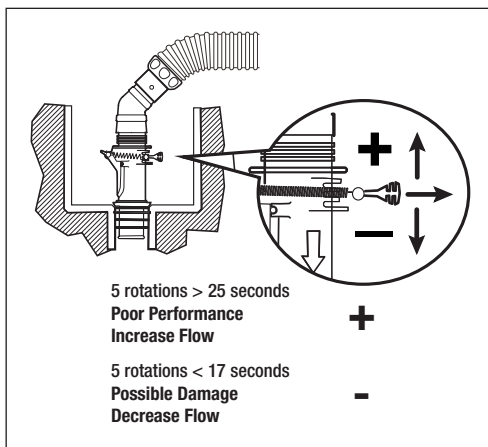

Figure 9. Adjust FlowKeeper™ Valve
- Flowkeeper™ valve (f) at the skimmer, (skimmer installations only, Figure 9).